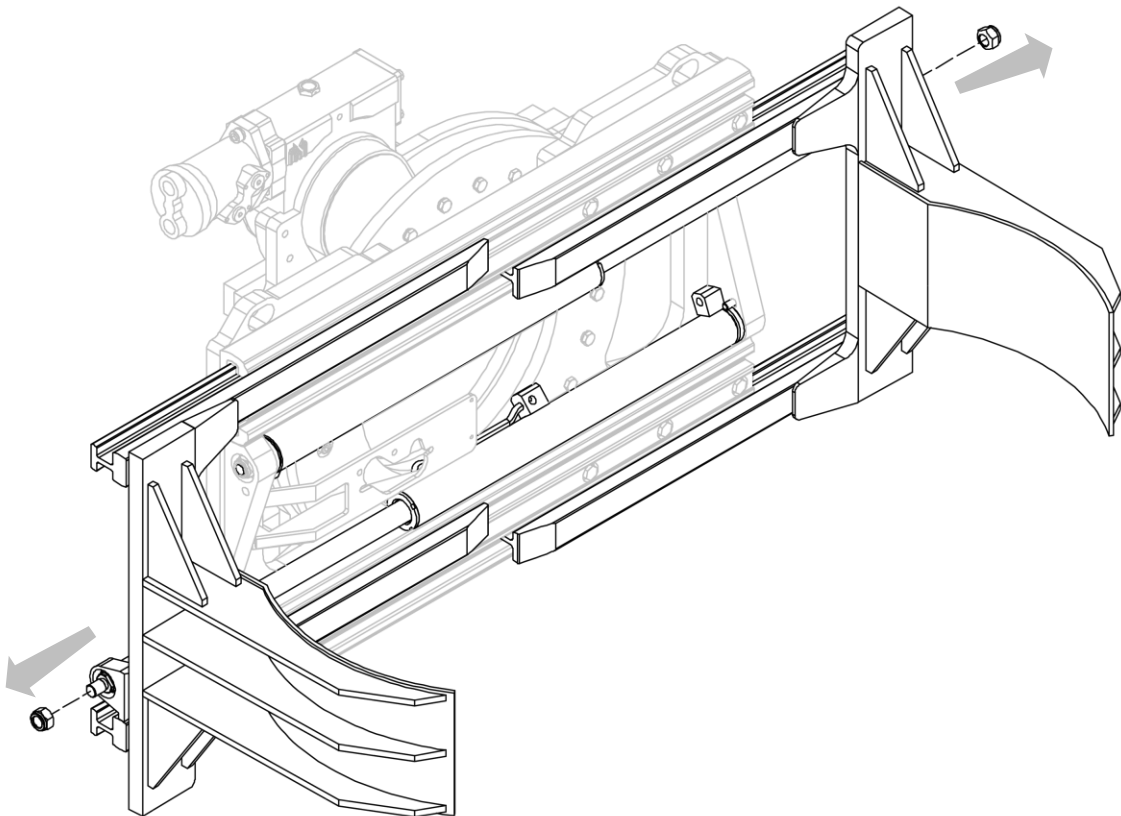

Figure 36
3. Remove the nuts fastening the cylinders to the forks (see *Figure 36*).